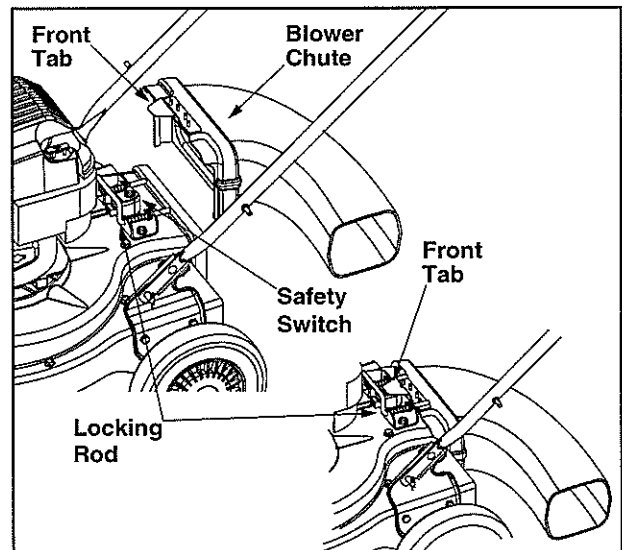

Figure 5
- Grasp blower chute with one hand and pull locking rod on mounting bracket with other hand toward engine. See Figure 5.
- Grasp blower chute with one hand and pull lock rod on mounting bracket with other hand toward engine to release. Refer to Figure 5.